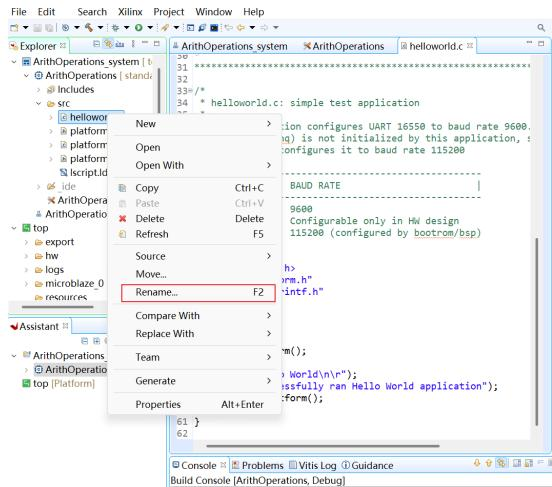

Figure 4
- (1) As shown in Figure 4, in the Project Explorer window, expand ArithOperations → src